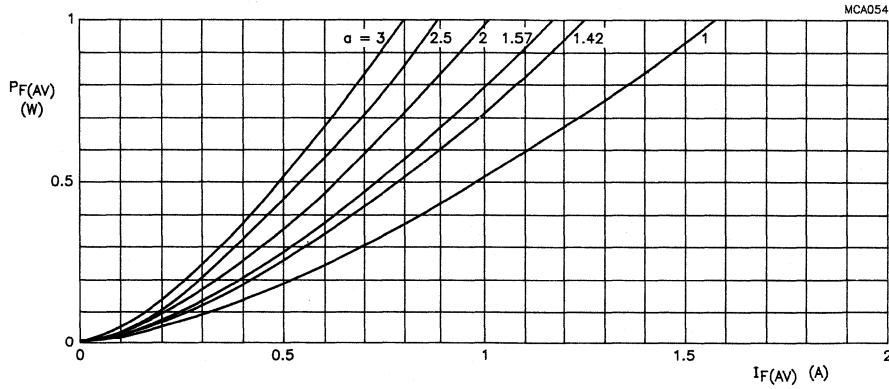

Fig.5 1N5818. Maximum values steady state forward power dissipation as a function of the average forward current;
- find $I_{F(AV)max}$ from Fig.5, for